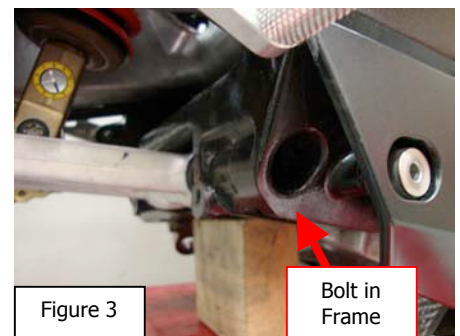

Figure 3
5. Remove front bolt retaining the link to the frame and remove the stock link. See Figure 3.